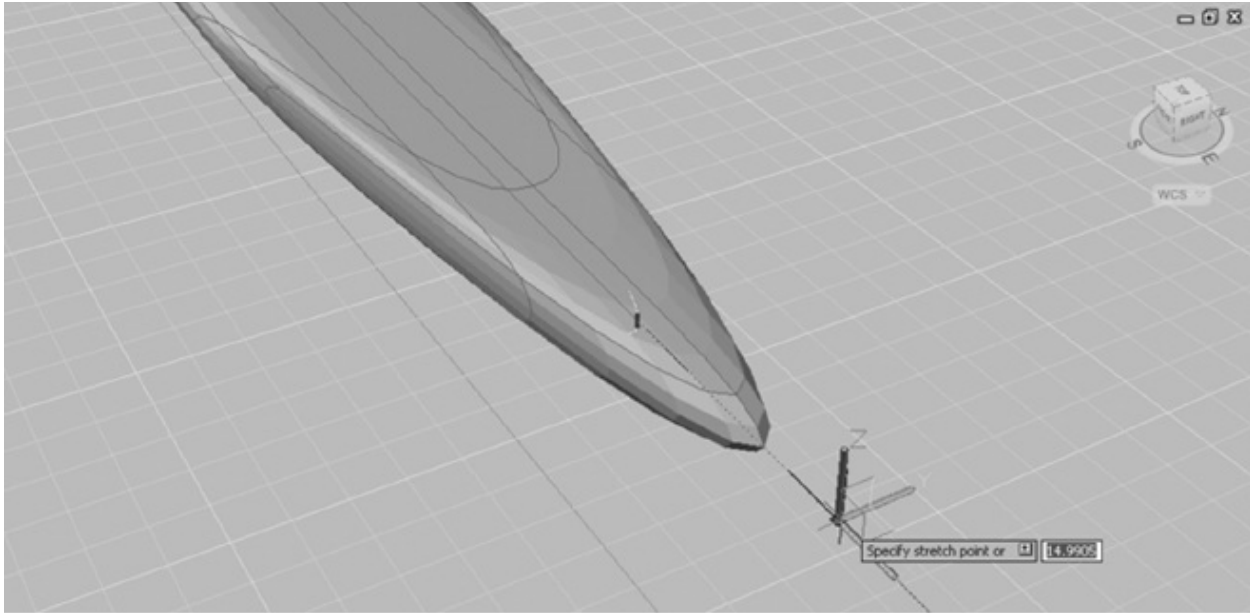

FIGURE 23.15 Pull the front edge so that the mesh looks similar to this image.
5. When it looks similar to Figure 23.15, click the mouse button.